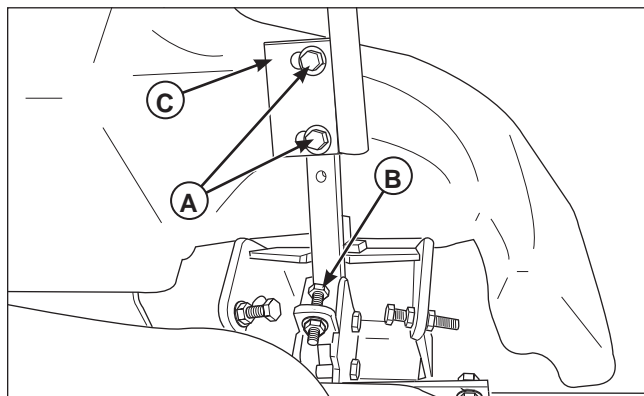

Figure 30. Control Lever Adjustment
Loosen the mount bolts (A, Figure 30) and pivot the lever(s) (C) to align with each other.